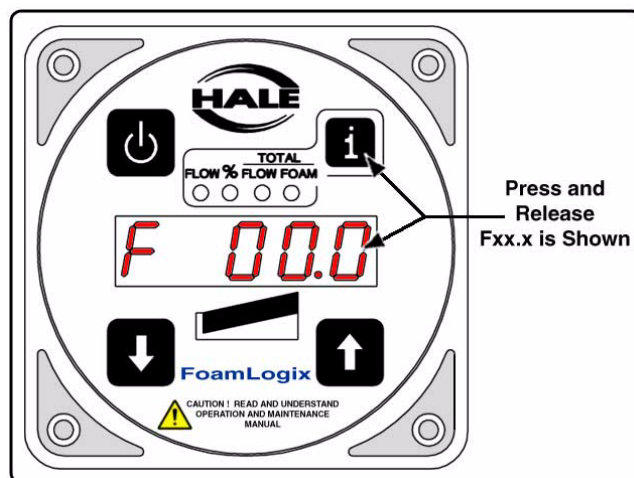

Figure 4-6: Flow Sensor Calibration Factor
1. Press and release the **i** button. The display shows **F xx.x**, which is the water flow sensor calibration factor. (See Figure 4-6: "Flow Sensor Calibration Factor.")